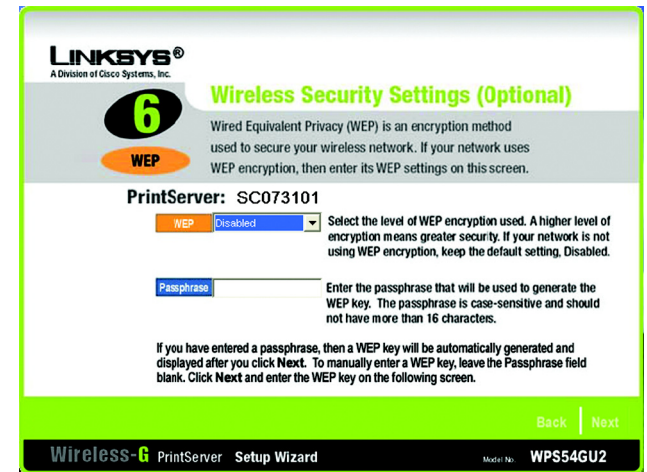

Figure 4-8: Wireless Security Settings
- The *Wireless Security Settings* screen, shown in Figure 4-8, will appear. If you want to enable WEP encryption for greater wireless security, select the level of WEP encryption, **64 Bit Keys** or **128 Bit Keys**, and then enter a Passphrase. If you use a Passphrase, a WEP key will be automatically generated after you click the Next button. The Passphrase is case-sensitive and should have 16 alphanumeric characters or fewer. It must match the passphrase of your wireless network and is compatible with Linksys wireless products only. (You will have to enter the WEP key(s) manually on any non-Linksys wireless products.)